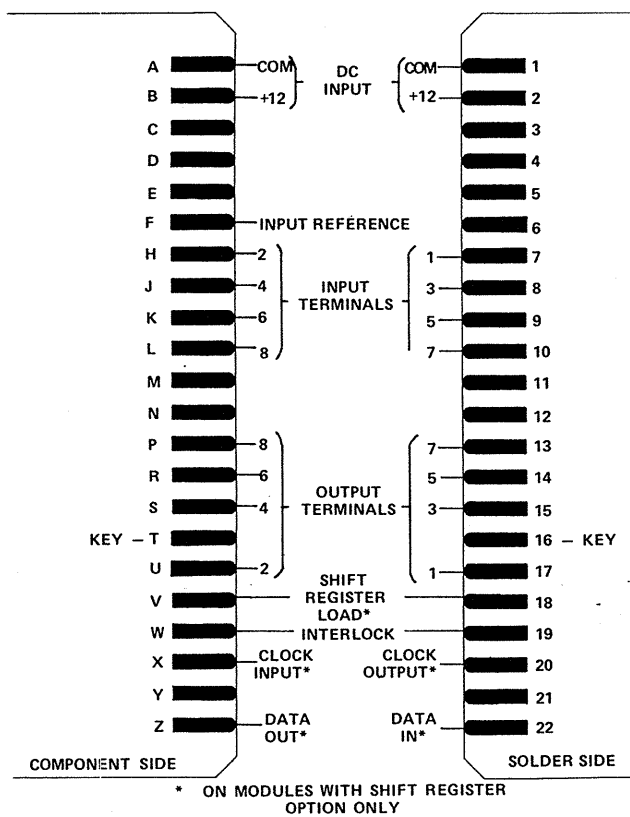

Figure 2. Edge connector terminal assignments, Model 66 IN/OPI Input/Optical Isolation Module.
**Space Requirements:** Model 66 IN/OPI modules require two module spaces in a Model 68 Chassis. The mating connector used must have a key in position 16 (T).
**Interconnections:** Connect all interconnect wiring to the mating connector as shown in Figure 2.